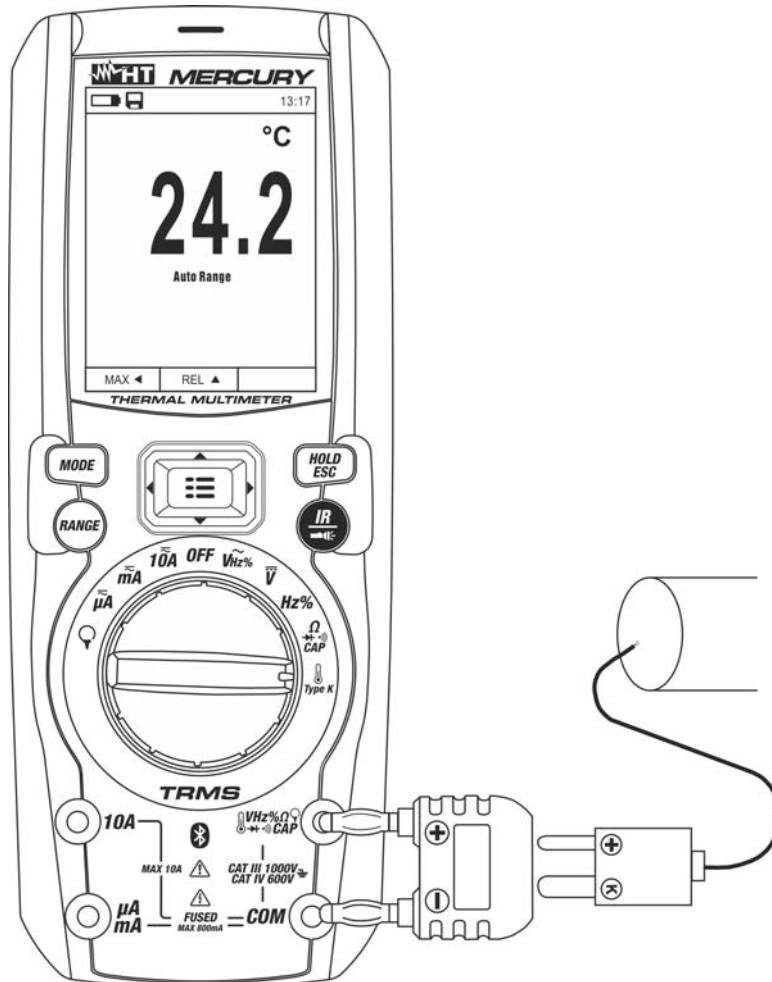

Fig. 27: Use of the instrument for Temperature measurement
3. Insert the provided adapter into input terminals **VHz%Ω** (polarity +) and **COM** (polarity -) (see Fig. 27).